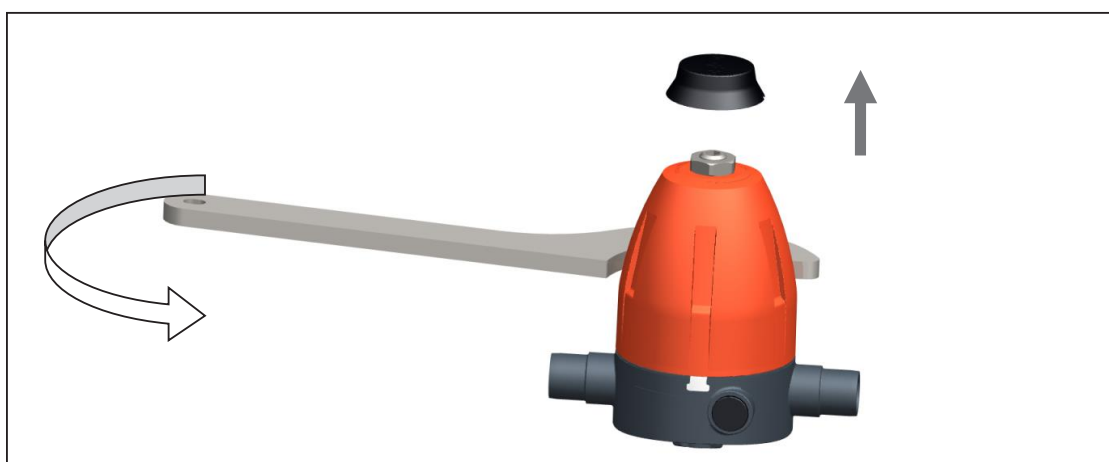

Fig. 7
- ▶ Fix the body with a suited tool and loosen the bonnet assembly (top part). To do so, turn the bonnet assembly (top part) counterclockwise, see Fig. 7. During this, the seal sticker will be broken.